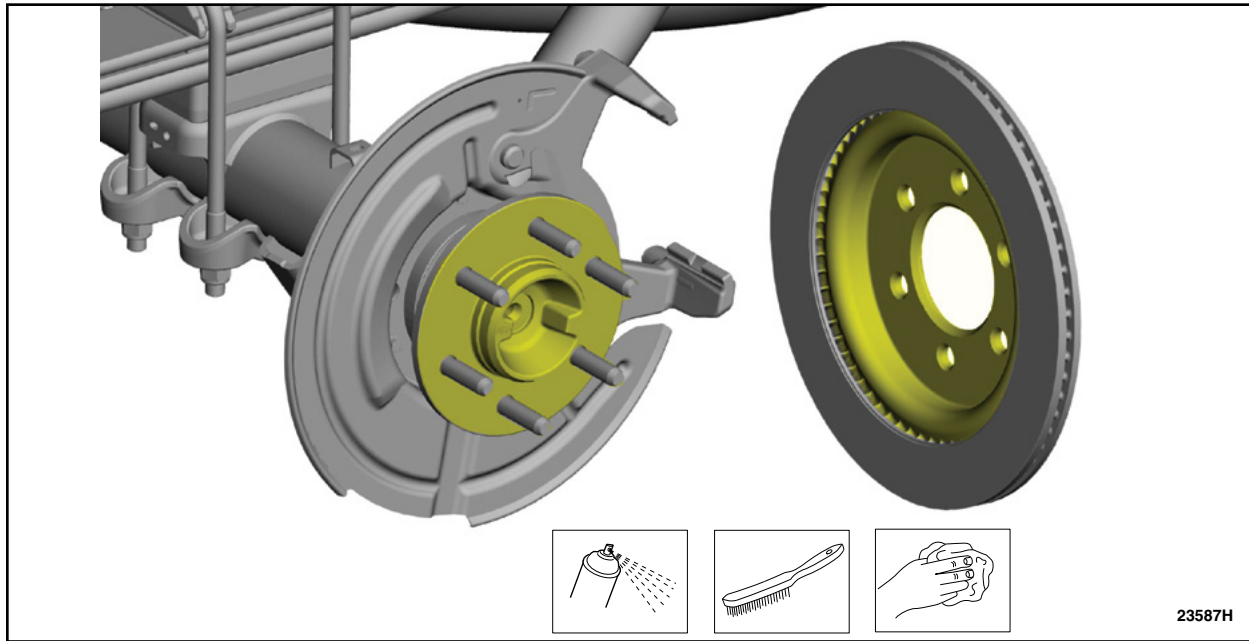

FIGURE 6
10. On both sides, clean the brake disc mating surfaces using a wire brush and the specified material. See Figure 6. Material: Motorcraft® Metal Brake Parts Cleaner / PM-4-A, PM-4-B.